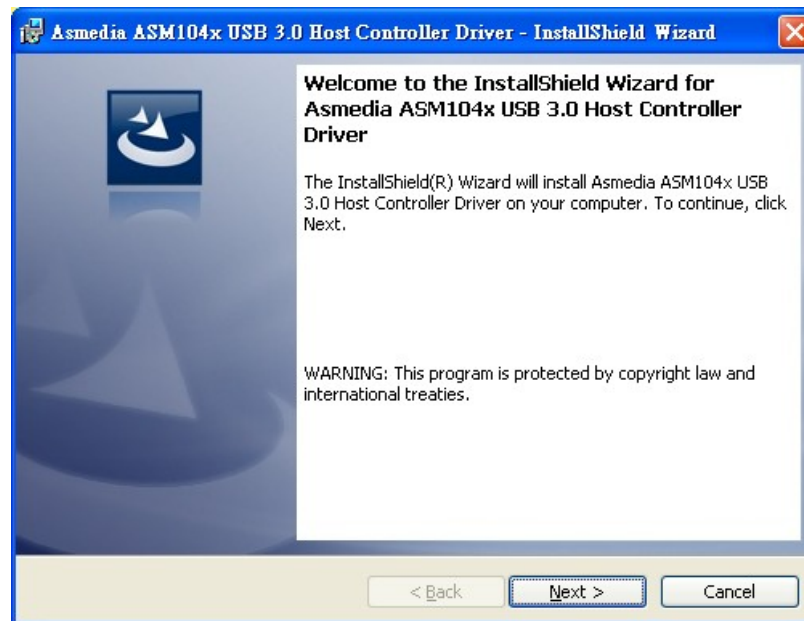

Figure 6-23: USB 3.0 Driver Welcome Screen
Step 4: A **Welcome Screen** appears (**Figure 6-23**).